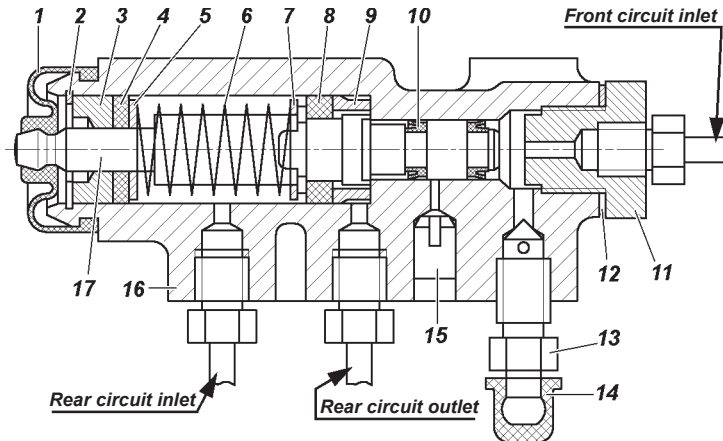

Fig. 9.33. Proportioning valve:
Proportioning valve. The motor vehicles without ABS are equipped with the proportioning valve (Fig. 9.33), which ensures the optimal distribution of braking forces between the axles of motor vehicle and prevent the rear wheels from blocking earlier than the front wheels. When servicing the motor vehicle check the proportioning valve and clean it from dirt and check its attachment. Make sure by visual inspection that the valve and its drive details are not damaged, the brake fluid does not leak and the coupling of the pillar with the flexible arm and the bracket on the rear axle has no play.
3. Screw bolt 3 until it touches piston tail 17 (see Fig. 9.33) of the valve.